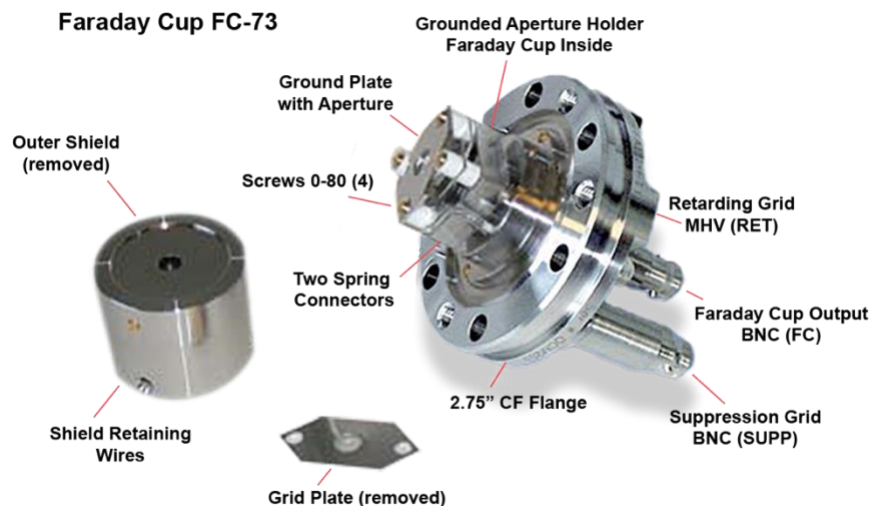

Figure 1. Features of the FC-73 Faraday Cup.
The FC-73 Faraday cup has a set of three grids so that it can be used as an energy analyzer. These grids are, in the order that the electrons or ions go through them: ground, retarding, and suppression, labeled G, R and S in the diagram with Figure 1.
2. Connect a suitable user-supplied picoammeter to the output BNC on the flange labeled FC. (See Figure 1).
a. For the retarding grid: Connect a user-supplied power supply that provides voltages approximately 10% higher than beam energy (5000 V max.) to the flange MHV labeled RET. (See Figure 1)
2. Replace the shield by putting it over the Faraday cup and replacing the 3 screws. (See Figure 1).
2. Disconnect the two internal spring electrical connections from the plates. (See Figure 1).